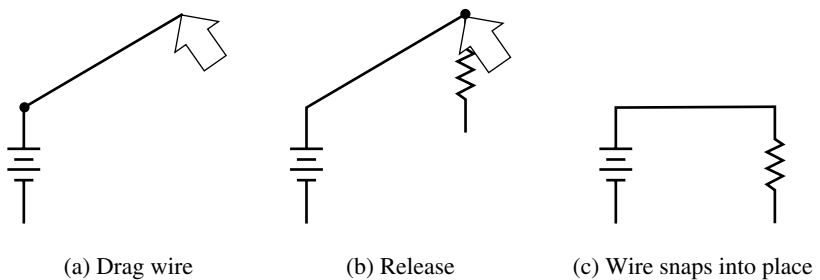

FIGURE 4–29 Routing wires using Electronics Workbench.
- Drag a connector dot from the basic parts bin, position it as shown in Figure 4–28, then add a ground symbol from the sources bin. (Note: Make sure the ground connects properly. See also Note 7.)